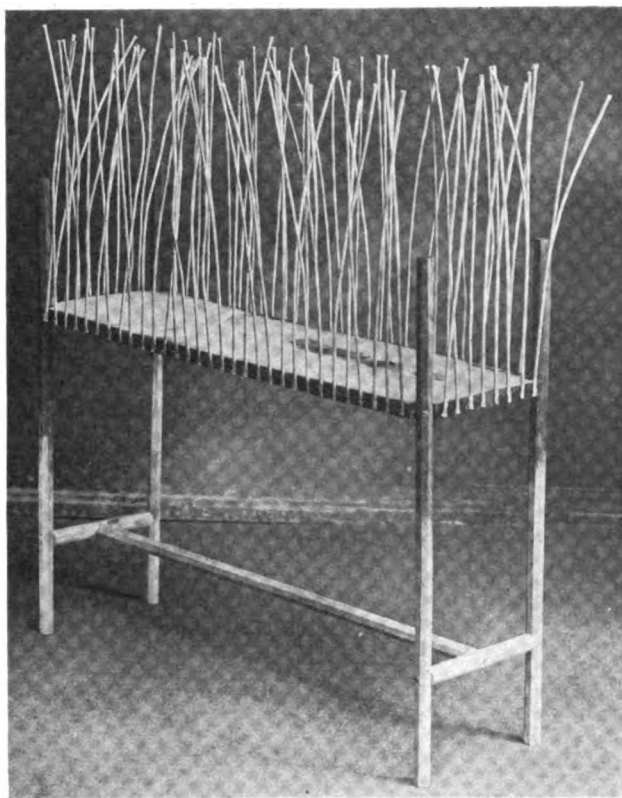

FIG. 2.—THE FRAME. STAINED AND WITH THE STAKES IN PLACE.
A. *Frame.* Rigidity is the big essential, so oak was used for the legs and cross pieces, white pine for the bottom, and 2" No. 10 screws for fastening. The oak was inch material and after it was cut to length it was ripped one inch square and then octagon. The octagon shape helps grip the paper cord in winding but still gives a round appearance. The white pine bottom was made of inch material and notched at the corners to receive the legs which were screwed on with the screws entering cornerwise. This helped to make it rigid. Fig. 2 shows clearly how these were assembled. Staining as shown in the same figure will help hide any breaks in the Art-Fibre which would otherwise show white when the finish darkens the paper.
B. *Body.* In building up the body,  $\frac{5}{32}$ " Wire Stakes were used and tacked on the frame as in Fig. 2. The stakes next to the posts were only  $\frac{1}{2}$ " from them while all the rest were about  $1\frac{1}{2}$ " apart. Any book on reed or rattan work will give several methods of weaving-in the body, but the method used here dealt with